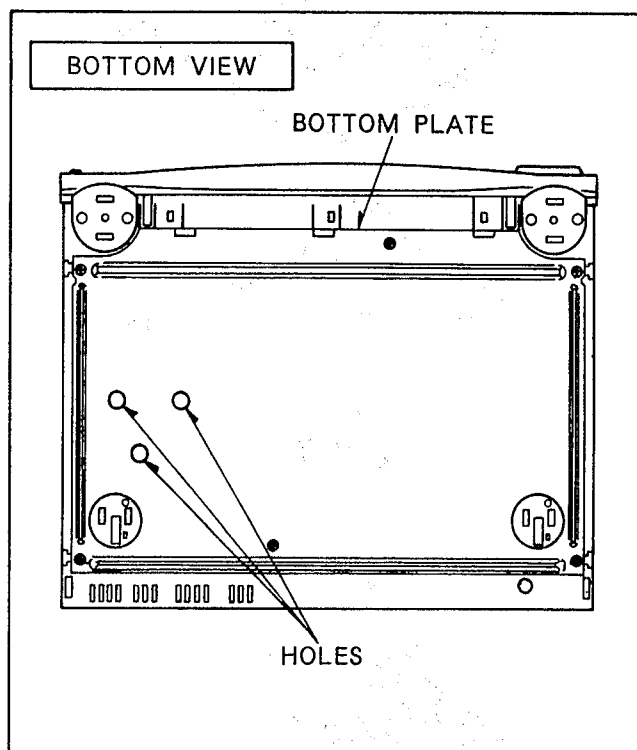

Fig. S4
- 2) Remove the 3 screws of the Cylinder Unit with a magnetized screw driver through the holes on the Bottom Plate as shown in Fig. S4.